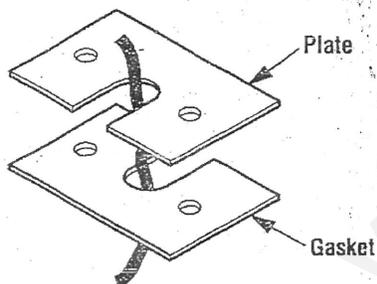

Figure 2
Step 7. Feed excess ignitor wire back through the spudplate. Ensure the connectors where the wires meet are pushed through the spudplate and outside of the firebox. Mount the rectangular plate and mating gasket over the spudplate hole to seal around the ignitor wire. Insure that the slots on the plate and gasket are mated in opposite directions (Refer to *Figure 2*).